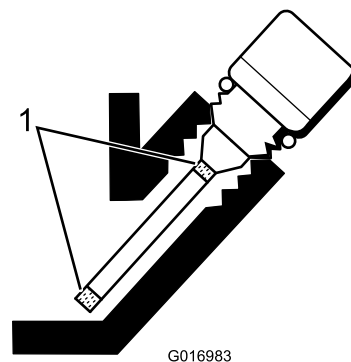

Figure 24
5. If the level is low, add only enough oil to raise the level until it is between the hatch marks on the gauge (Figure 24).